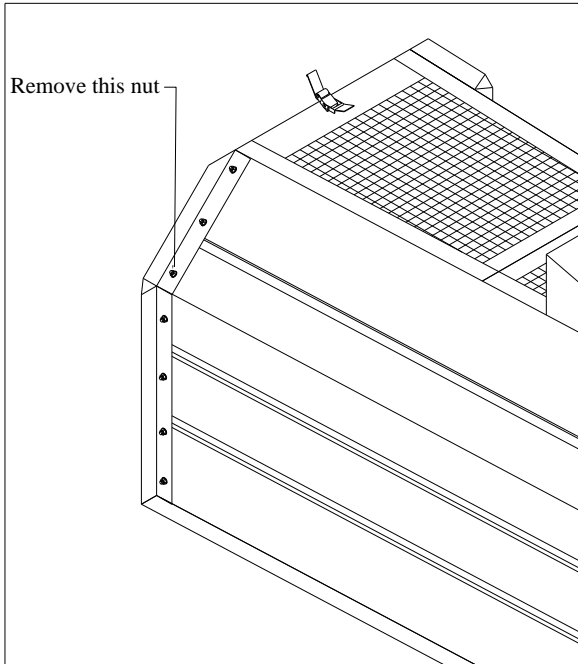

Fig. 1
1. Remove whizlock nut shown in illustration (Fig. 1)